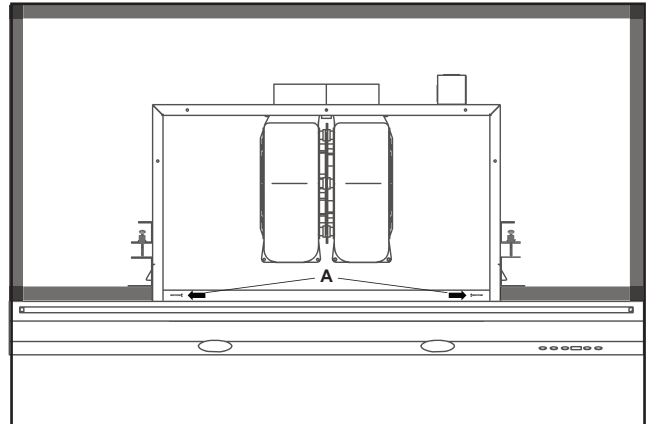

**Fig.8**
7) **24" Models Only.** Install (2) 3/16x40 screws into the captive nuts of each upper installation bracket. Tighten screws to adjust the height of the range hood until there is no gap between the cabinet and front edge of the hood, Fig.8.
8) **30" & 36" Models Only.** Secure hood body to cabinet base by (4) M4 x 16mm screws through the bottom of range hood.
9) Secure (2) 1" wood screws (A) into the screw holes on the left and right sides of the filter opening.